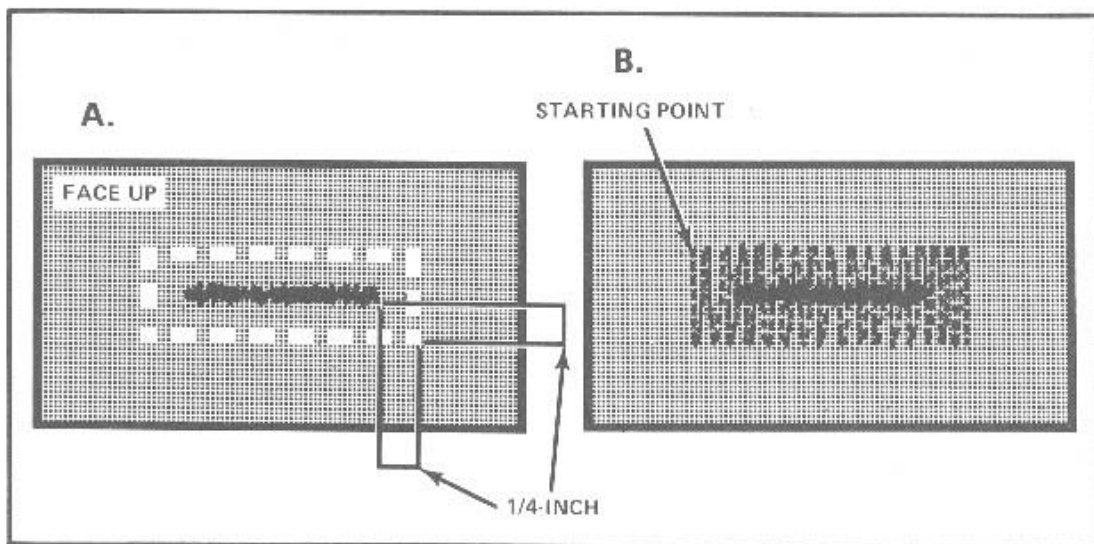

Figure 3-76
- b. Sew up and down across the tear, keeping stitches 1/16-inch apart until stitches cover the marked area. (See Figure 3-76)